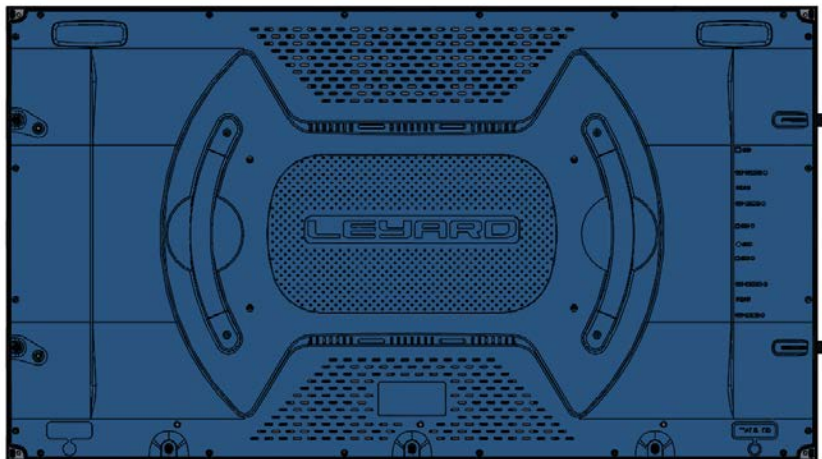

Figure 2. The blue area shows the polymer cover. When the video wall is assembled, ensure that this cover is removable for maintenance and repair.
- It is also critical that the mounting structure is designed so that the polymer back cover of the Leyard TWA Series cabinet can be removed for maintenance and repairs. The polymer back cover is shown in Figure 2 and highlighted in blue. If this cover is inaccessible, the cabinet and all cabinets above it must be removed for service or repair.